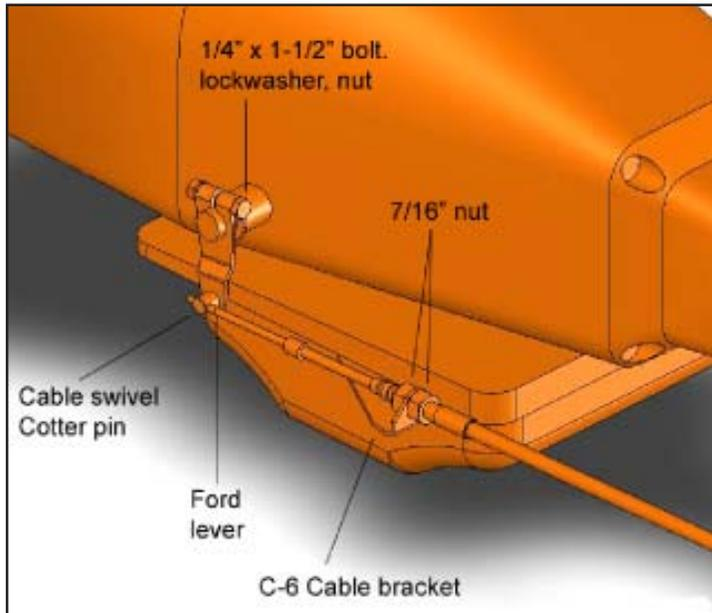

Figure 7
**STEP 19.** If you have not already done so, loosen the pinch bolt on the throttle lever on the transmission. This is the lever on the small diameter shaft. Pry the lever off with a screwdriver and allow the linkage to hang free. Remove and discard the stock shift lever and the stock shift linkage. Install the **B&M** selector lever in position and tighten the pinch bolt securely (See Figure 7). Make sure the lever is not pushed down so far as to touching the transmission case. This will cause the lever to bind on the case. The lever should travel smoothly from front to back with a positive click in each gear position. Install the stock throttle lever into position on the small diameter shaft as removed and tighten the pinch bolt securely. The throttle lever must operate smoothly.
**STEP 20.** Remove the two transmission oil pan bolts directly below the shift lever. Install the cable bracket into position with two spacers between the pan and the bracket (See Figure 7). (If your transmission is equipped with a cast aluminum oil pan these spacers can be omitted). Install the two supplied 5/16-18 x